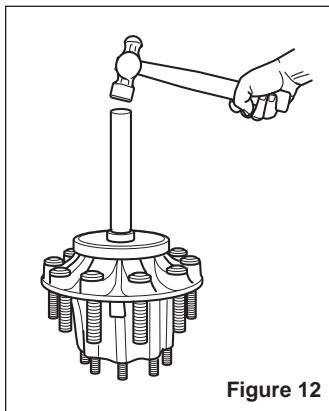

Figure 12
- Press the ring on the hub. If a press is not available, drive the ring on with a hammer or mallet until the ring seats on the hub (see figure 12). A swift initial blow with an 8-lb. hammer may be necessary to start the ring onto the hub.